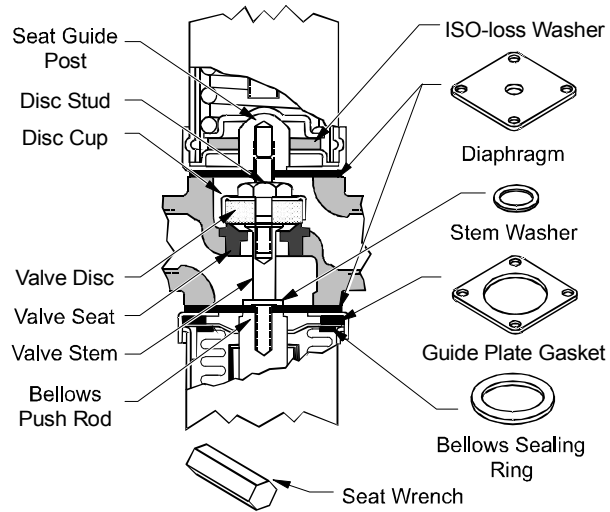

Figure 7: Low Flow Valves
12. If servicing a low flow valve, place the stem washer and new diaphragms on the sensing element end of the valve stem assembly. Use two diaphragms on 3/8 in., 1/2 in., and 3/4 in. valves and three diaphragms on 1 in. and larger valves. Screw the diaphragm into place with the bellows push rod. Attach the sensing element to the valve body. See Figure 7.
13. Place two new diaphragms on the spring housing side of the valve body. Screw into place with the seat guide post (Figure 7).